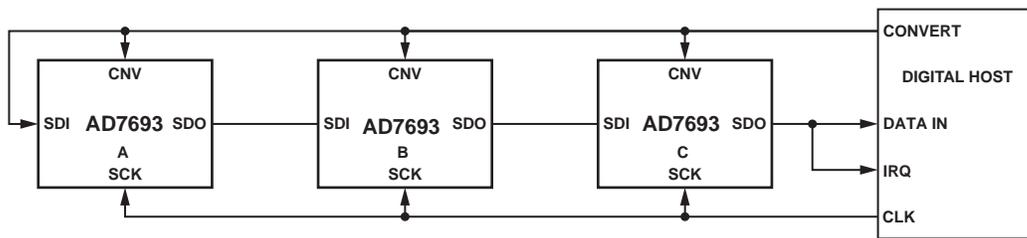
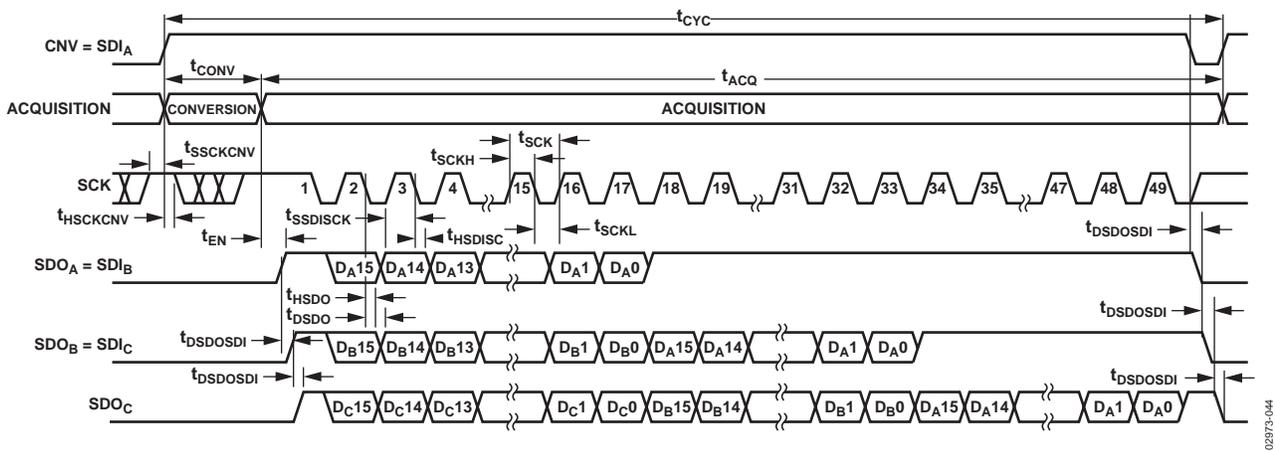

Figure 28. Chain Mode with BUSY Indicator Connection Diagram
Figure 29. Chain Mode with BUSY Indicator Serial Interface Timing
- In the chain mode, if SCK is high during the CNV rising edge (Figure 29).
A connection diagram example using three AD7693s is shown in Figure 28 and the corresponding timing is given in Figure 29.
subsequent data readback. When all ADCs in the chain have completed their conversions, the nearest ADC (ADC C in Figure 28) SDO is driven high. This transition on SDO can be used as a BUSY indicator to trigger the data readback controlled by the digital host. The AD7693 then enters the acquisition phase and powers down. The data bits stored in the internal shift register are then clocked out, MSB first, by subsequent SCK falling edges. For each ADC, SDI feeds the input of the internal shift register and is clocked by the SCK falling edge. Each ADC in the chain outputs its data MSB first, and  $16 \times N + 1$  clocks are required to readback the N ADCs. Although the rising edge can be used to capture the data, a digital host using the SCK falling edge allows a faster reading rate and, consequently more AD7693s in the chain, provided the digital host has an acceptable hold time.